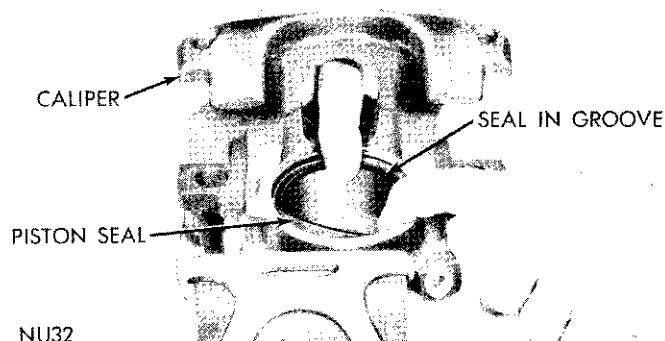

Fig. 15—Installing Piston Seal
(2) Dip new piston seal in lubricant (supplied with kit) Ucon #LB1145Y24 (or equivalent) and install in groove in bore. Seal should be positioned at one area in groove and gently worked around the groove, using clean fingers, until properly seated. **NEVER USE AN OLD PISTON SEAL.** (Be sure seal is not twisted or rolled). (Fig. 15).
(3) Coat new piston boot with lubricant (as speci-